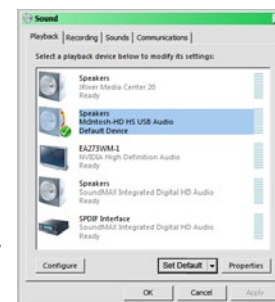

Figure 83
2. Referring to figure 83, first select “McIntosh-HD HS USB Audio” and then click on the “Set Default” button.